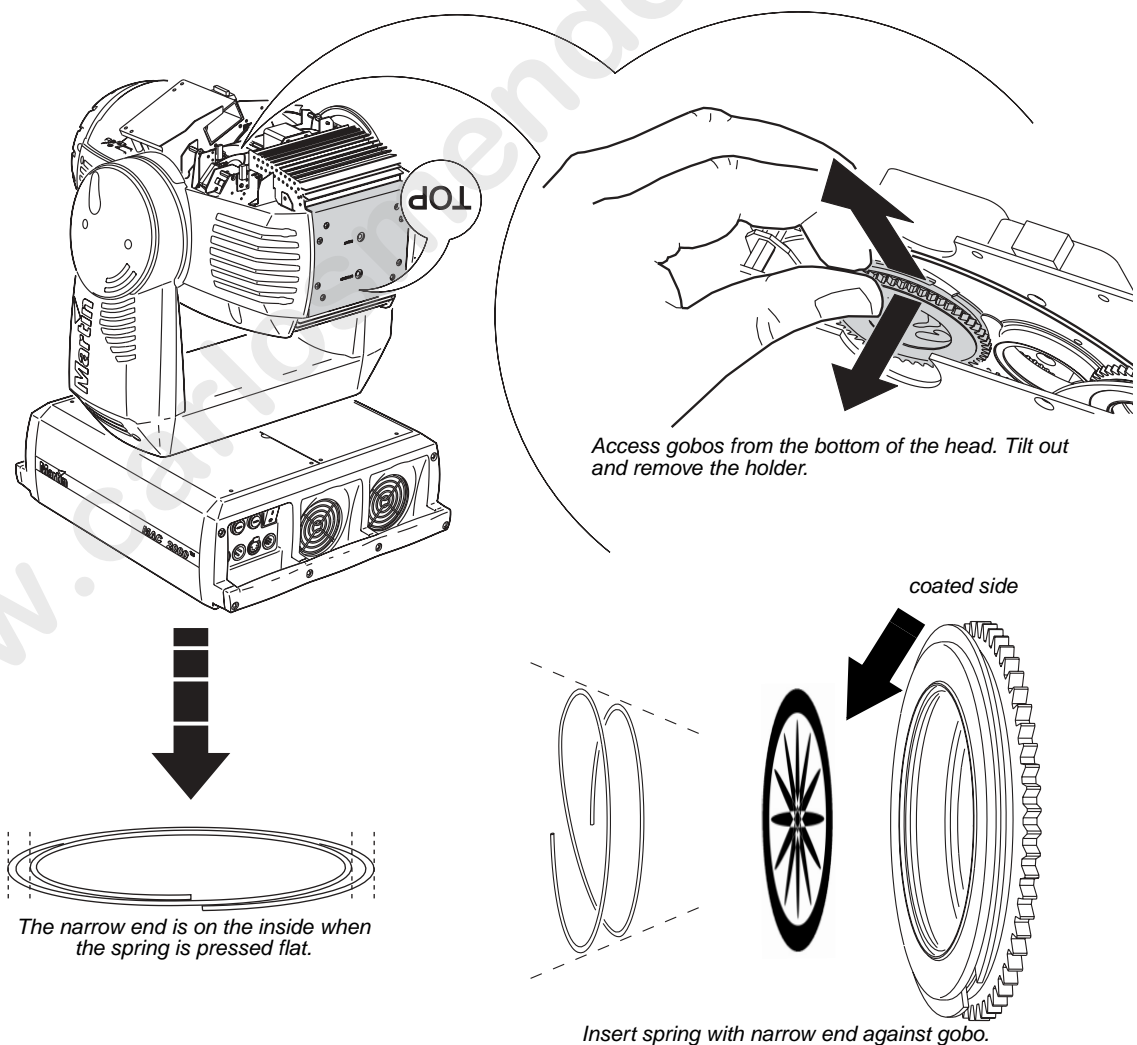

Figure 15: Replacing rotating gobos
- 2 See Figure 15. Lock the head in the upside down position and remove the bottom cover. Turn the gobo wheels as required to access the desired position. Pull the gobo holder away from the wheel slightly to release. Remove the gobo holder.